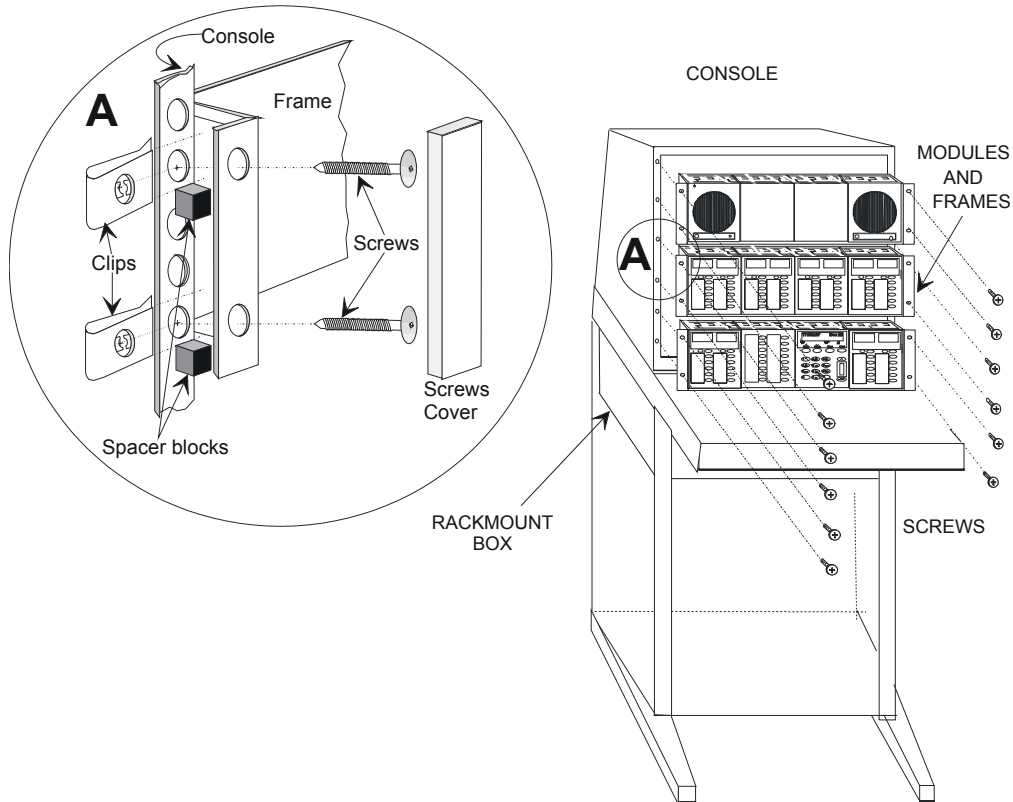

Figure 4-4: Console Frame Mounting Procedure
2. Insert the clips shown in Figure 4-4 to line up with the holes in the console furniture.